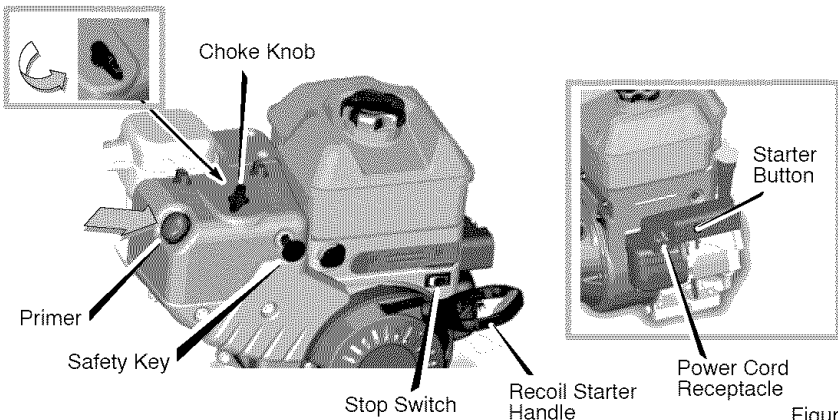

Figure 20
2. Push the **stop switch** to the ON position (see Figure 20).